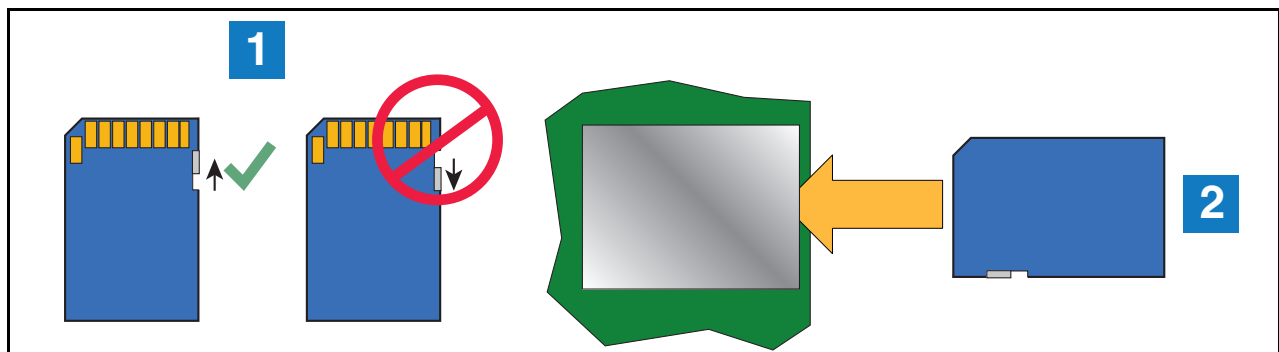

Figure 19. Installing SD Card
4. Press the outer edge of the SD card towards the rear of its enclosure and it should spring out so it can be removed. Remove the SD card from the old CPU board and check that the read/write-protect switch on the side of the card is in the position shown in (item 1 Figure 19). Insert the SD card into its enclosure on the new CPU board with the contact side facing the CPU board (item 2) and gently push the card into its enclosure until it clicks into the enclosure's latch.